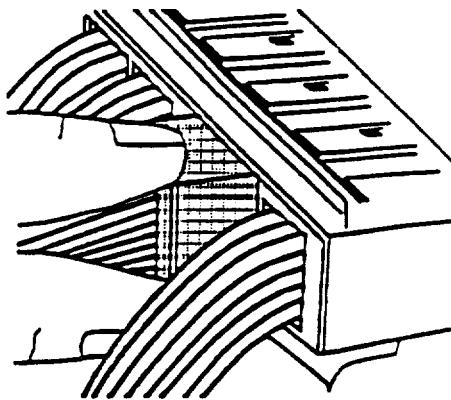

Figure 22. Series II Assembly
33. SERIES II BLOCK RAIL/BRACKET INSTALLATION AND REMOVAL. Install the blocks in the specified MIL-T-81714 track or bracket as follows (Figures 22 through 25):
a. Blocks are pressed into the rail as shown in Figure 22. Press the block by hand into the rail until a definite stop is felt. An audible click may be heard.